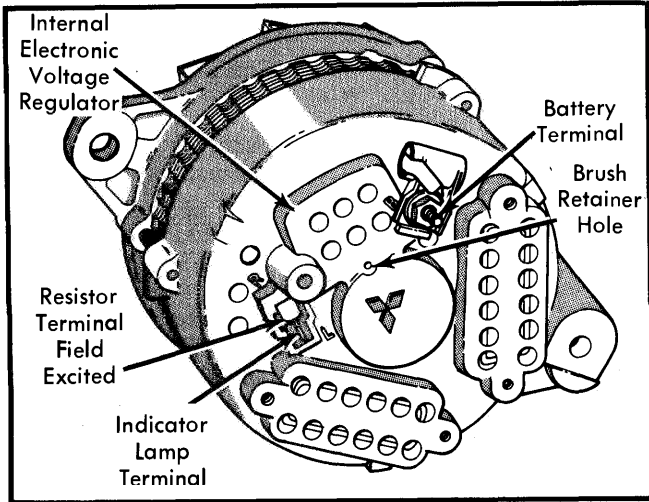
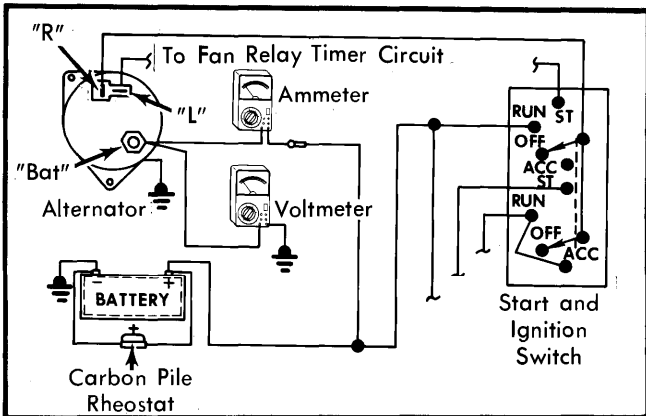

Fig. 1 Chrysler Corp. (Mitsubishi) Alternator Terminals
Fig. 3 Diagram Showing Meter Connections for Alternator Current Output Test
The alternator used in the above vehicles consists of a rotor, stator, rectifiers, end shields and a drive pulley. An electronic voltage regulator is built into the interior of the alternator's rear housing. See Fig. 1.
1) Turn ignition switch off. Disconnect battery ground cable. Disconnect "Bat" lead wire at alternator output terminal. See Fig. 1. Connect an ammeter (0-100 amp. minimum) in series with alternator "Bat" terminal and disconnected "Bat" lead wire. See Fig. 3.